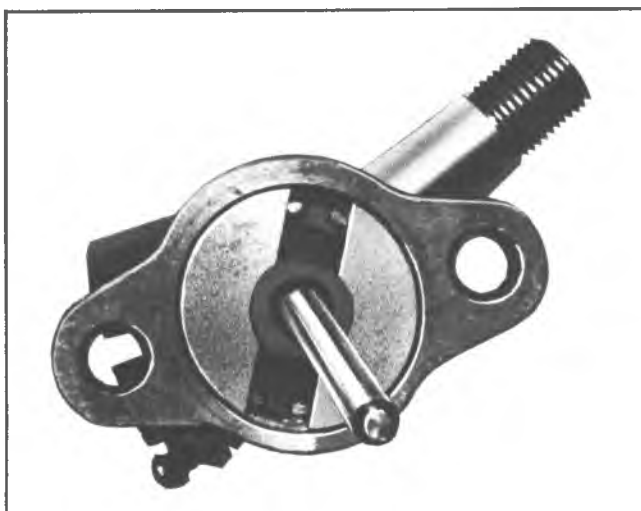

Fig. 74--Proper Key Installation
6. Insert the key, making sure that the small tangs on the ends of the key fit into the notches in the sleeve (fig. 74).